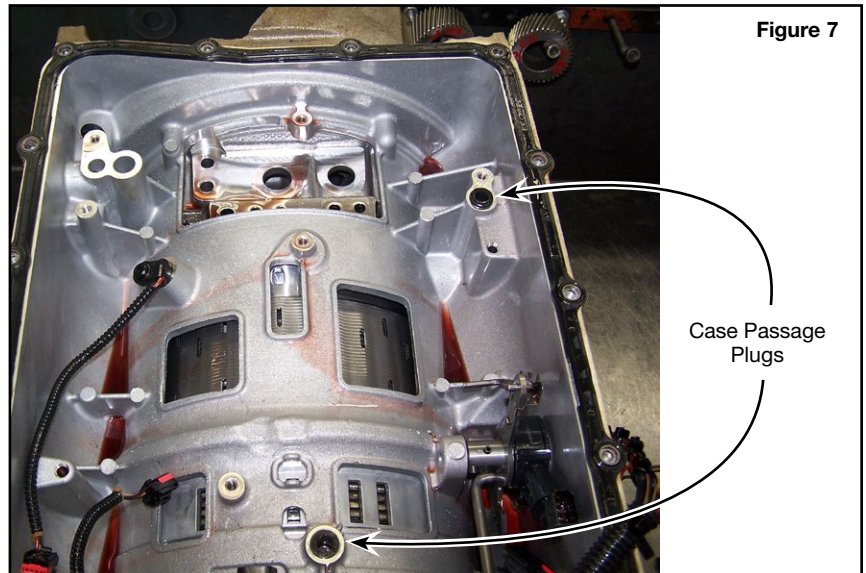

Figure 7
- f. Remove valve body from case. Keep track of case passage plugs, as these may stick to valve body (Figure 7).